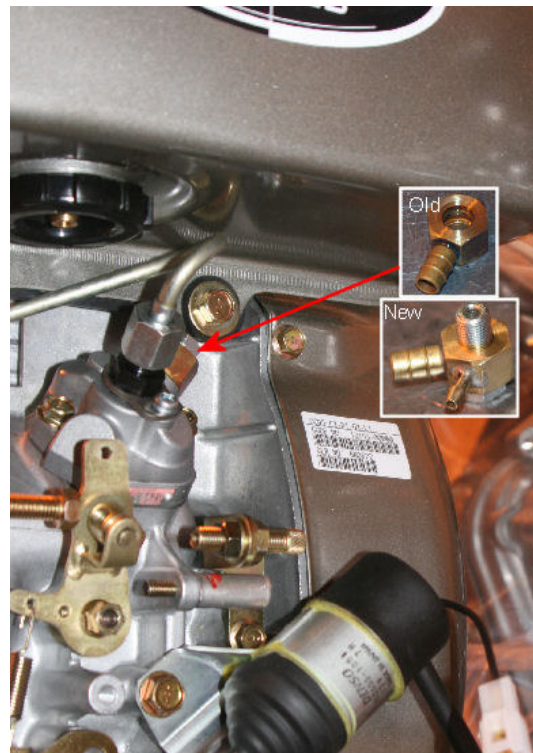

Fig 5-13 Injector banjo
1. Remove the old banjo (Fig 5-13).
2. Connect a length of vent tubing to the new banjo (Fig 5-14) and fit the new, vented version in place of the old one (Fig 5-13).